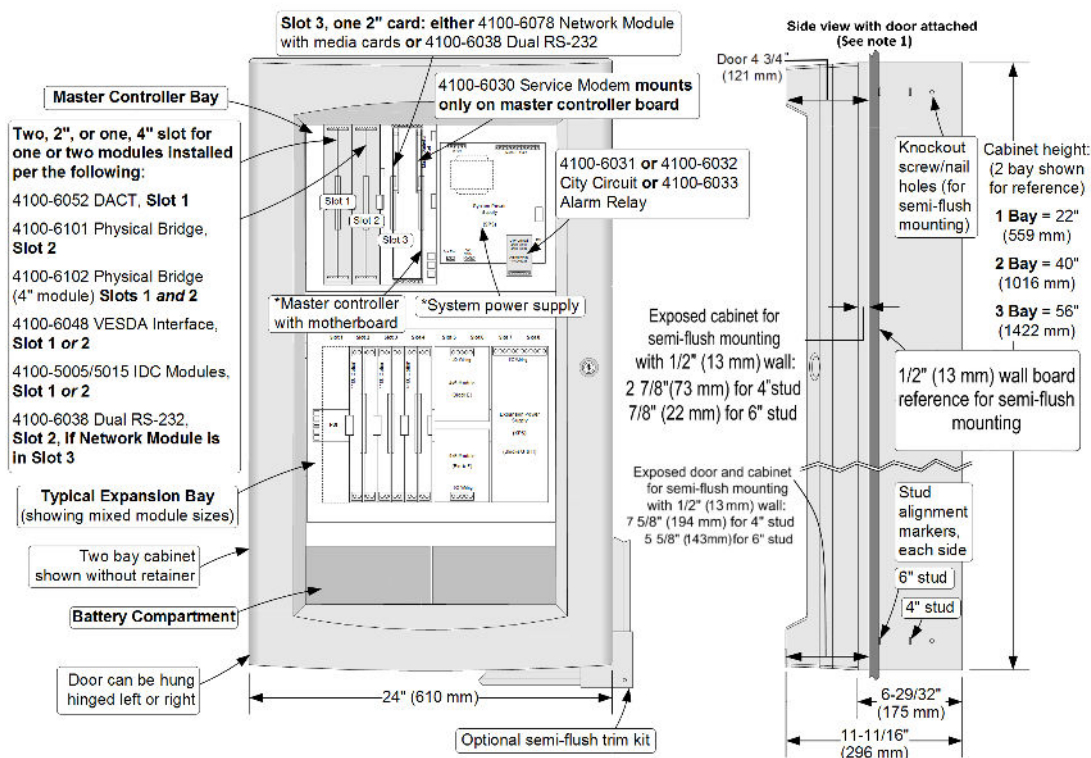

Figure 5: Mounting and CPU Bay Module Reference
2. Asterisks (*) in Figure 5 indicate supplied modules.